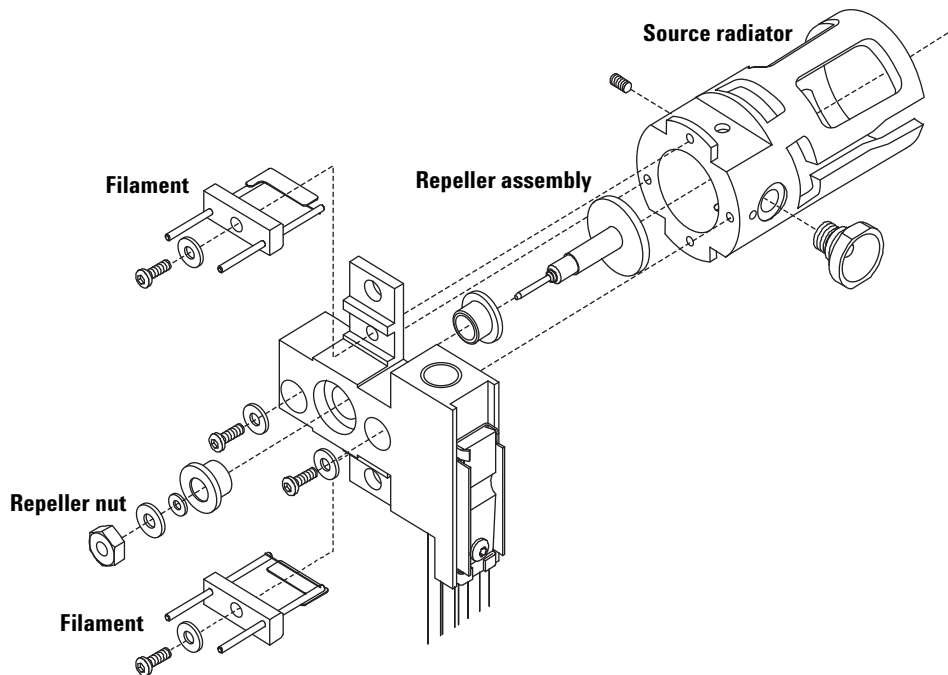

Figure 13 Replacing the heater and sensor
- 5 Separate the source heater assembly from the source body by removing the two screws. The source heater assembly includes the source heater, repeller, and related parts. (See Figure 13.)
- 6 Disassemble the repeller assembly by removing the repeller nut, washers, ceramic insulators and repeller. (See Figure 13.)
- 2 Reinstall the repeller, repeller insulators, washer, and repeller nut (Figure 13). The resulting assembly is called the repeller assembly.